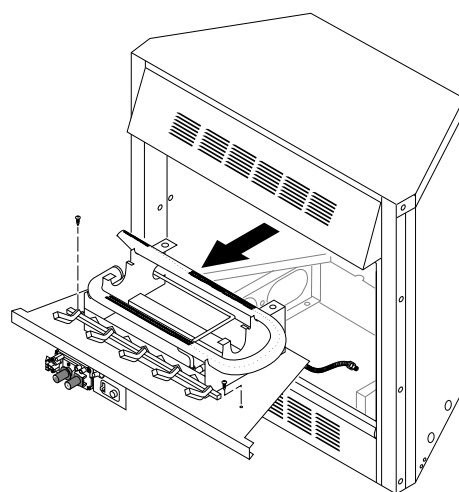

Figure 17 - Removing Log Base Assembly From Fireplace
2. Remove screws that attach log base assembly to fireplace (see Figure 17). Carefully lift up log base assembly and remove from fireplace (see Figure 17).